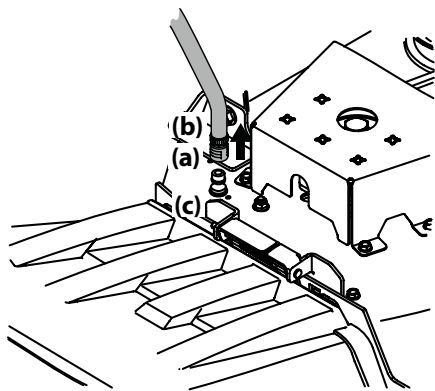

Figure 4-5
3. Pull back the lock collar (a) of the nozzle adapter (b) and push the nozzle adapter (b) onto one of the deck wash nozzles (c) at either end of the tractor deck. Release the lock collar (a) to lock the nozzle adapter (b) on the deck wash nozzle (c). See Figure 4-5.